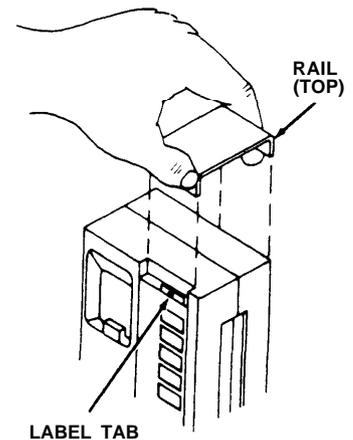

Figure 4
- Press this ridge with your finger while cupping the rail in the palm of your hand, pull up to remove the rail (see Figure 4).